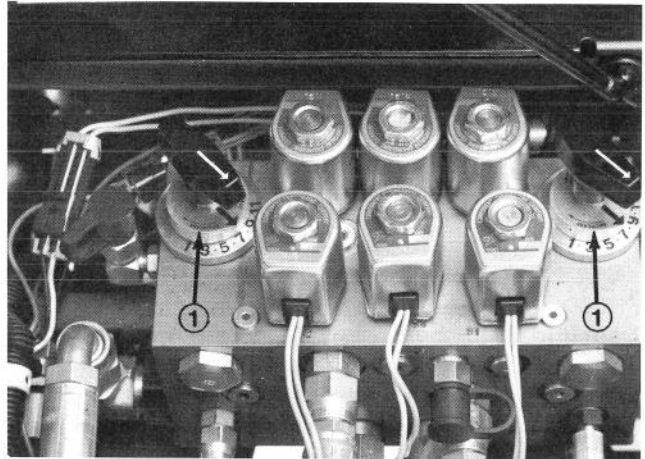

Figure 28
Reel Speed Control (Fig. 28) – Controls RPM of front and rear cutting units. #1 position is for backlapping. Remaining settings are for mowing operations. See section in manual for operating instructions.
4. To set reel speed, rotate knobs (Fig. 28) until indicator arrows are in line with the number designating desired setting.